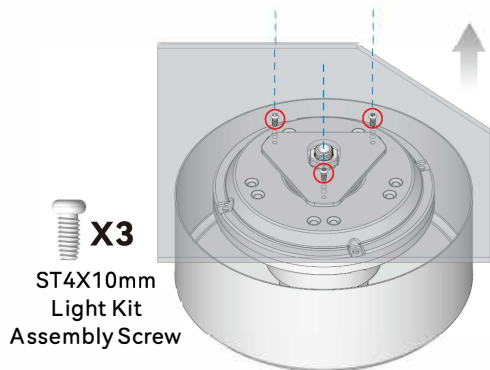

Fig. 1.1
1.2 Use a screwdriver to loosen the three light kit assembly screws from the MDF and remove the MDF as shown in Fig. 1.1. The MDF is used to protect the motor hub during transportation. Keep the screws for later use.